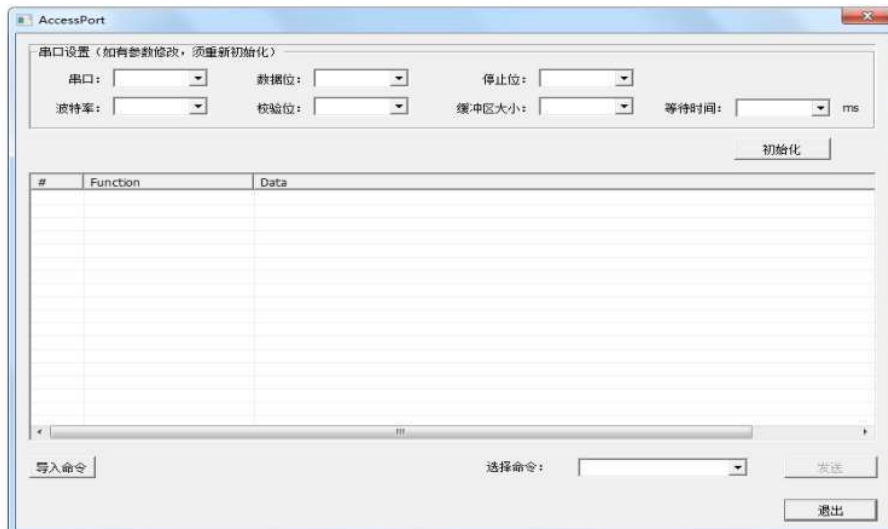

Figure 5-16
- Set up series (串口), baud rate (波特率), data bit (数据位), check bit (校验位), stop bit (停止位), buffer size (缓冲区大小) and waiting time (等待时间). As shown in figure 5-16.